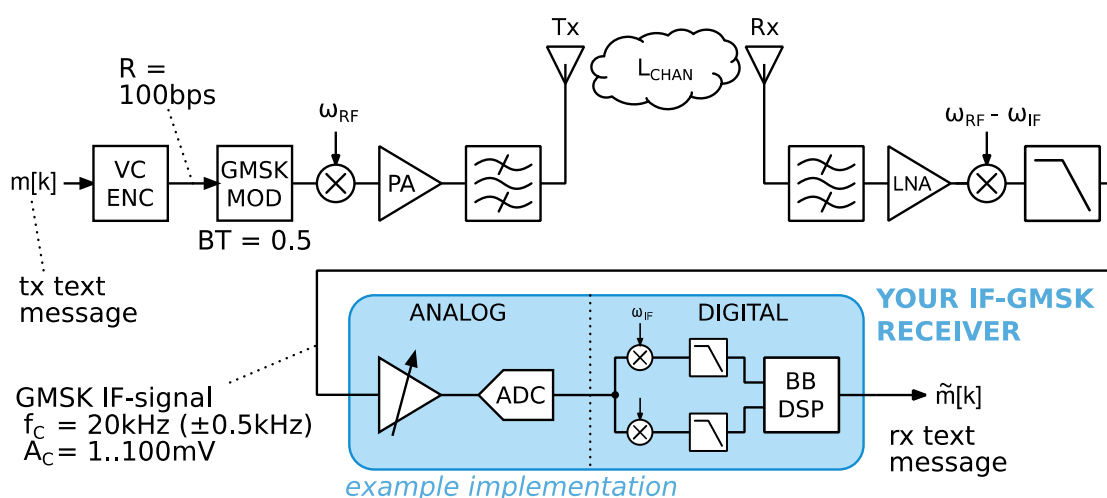

FIGURE 3: DESIGN GOAL OF YOUR IF-GMSK RECEIVER
Towards the end of this project (near the 3rd week of May) you need to propose your IF-GMSK receiver implemented in a mixed-signal integrated circuit (IC). An example of the high-level implementation of such a receiver is shown in Figure 3: